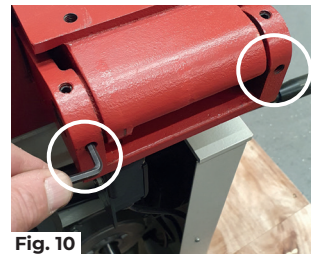

Fig. 10
- 4) Re-tighten the side locking grub screws (Fig. 10).